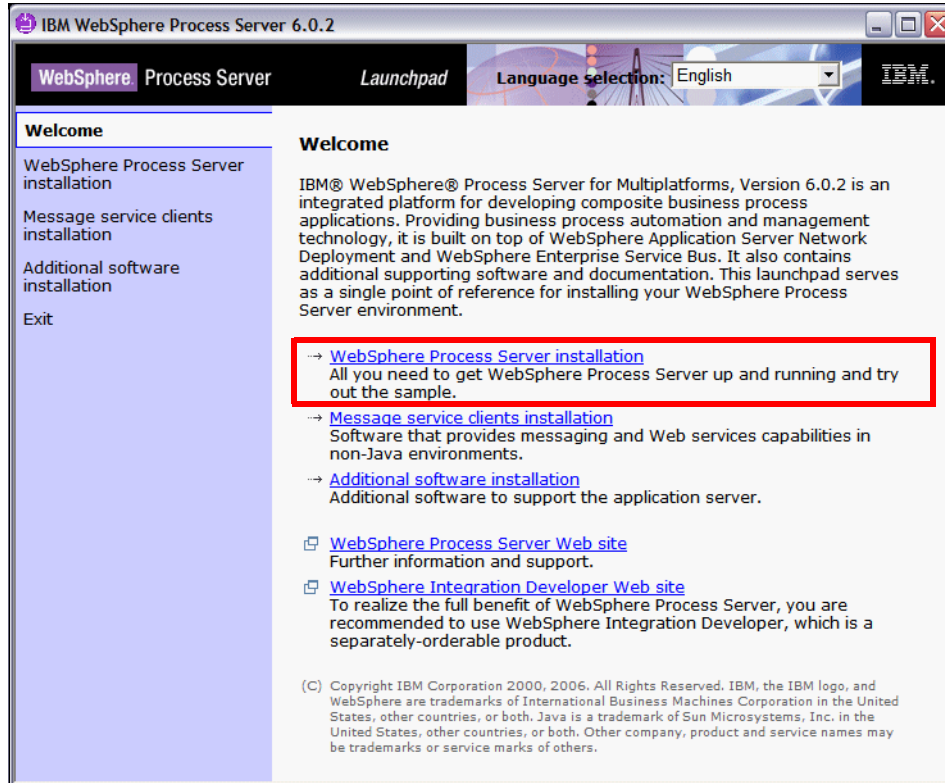

Figure A-15 WebSphere Process Server: Launchpad
- ▶ In the Launchpad, select *WebSphere Process Server installation* (Figure A-15).